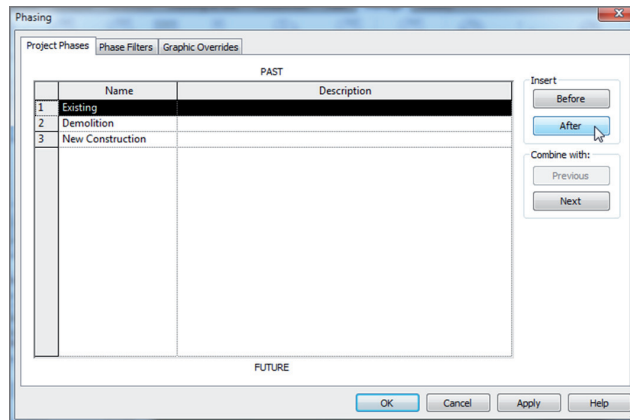

FIGURE BC7.2: Starting to add the Demolition phase
3. In the Insert section, click the After button, as shown in Figure BC7.2.